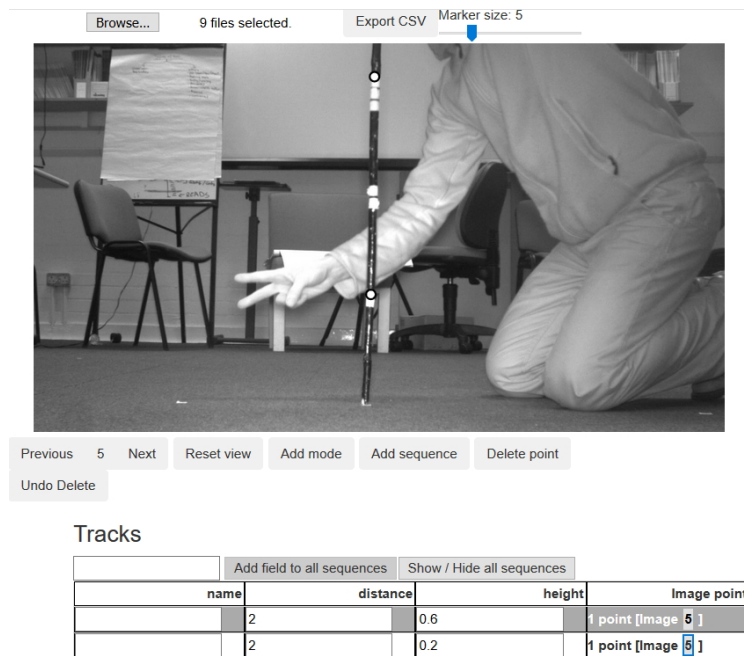

Figure 1: Animaltracker screenshot of a camera calibration image with pole in position 2 m from the camera, and two positions digitised at given heights.
1. Make a calibration pole, with regular length intervals clearly marked. A 1 m pole with 20 cm intervals marked works well (Fig. 1). Note that the gradations on this pole are indicated by the number of bands, so for example, the top of the triple band is at 60 cm from the tip, whereas the single band is at 20 cm.
3. With a camera positioned in front of the arena and armed, take one image of the pole at each position on the array, holding up some visible marker of the distance. For example, in Fig. 1, the pole is placed at 2 m from the camera, with distance indicated in metres by the number of fingers displayed.
For each pole, digitise two points a known height above ground, each as a new single-point sequence, and for each recording: distance from camera in metres, in a new field called "distance"; and height of digitised point in metres, in a new field called "height". See Fig. 1 for an example.